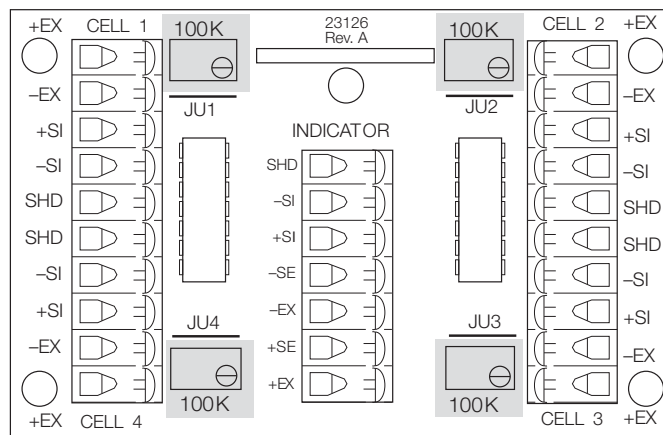

Figure 3-1. Potentiometers
3. Turn all four potentiometers (shaded areas of Figure 3-1) until a clicking sound is heard from each potentiometer. This ensures the maximum signal from each load cell.